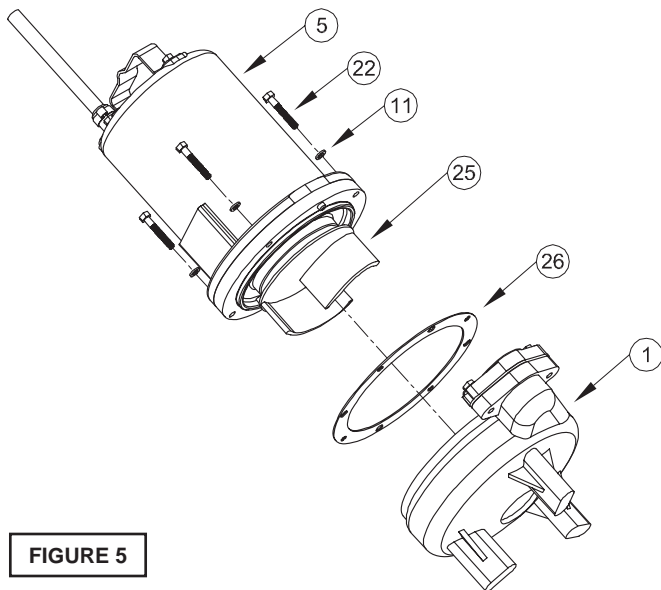

FIGURE 5
To clean out volute (1) or replace impeller (25), disconnect power, remove hex bolts (22), and lockwashers (11), vertically lift motor and seal plate assembly from volute (1) see Figure 5. Clean out body if necessary. Clean and examine impeller (25), for pitting or wear and replace if required, inspect gasket (26) and replace if cut or damaged. If the impeller (25) needs replacing, place a flat screwdriver in the slot of the end of the shaft to hold the shaft stationary while unscrewing the jam nut (37) and impeller (25).